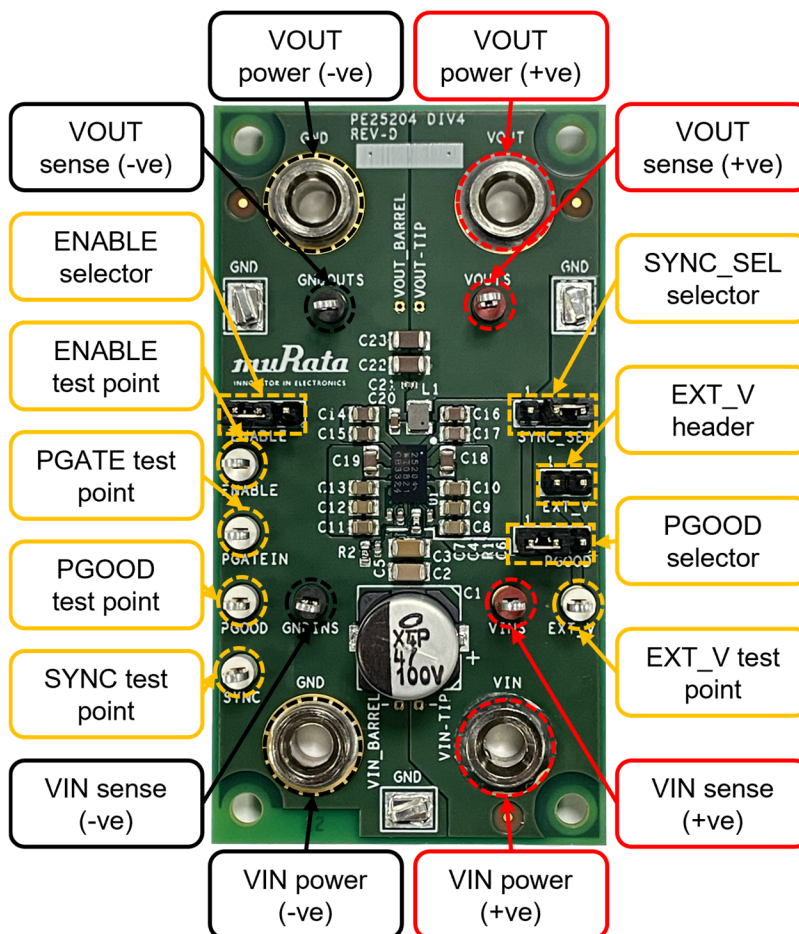

Figure 1. PE25204 Evaluation Board Assembly
The PE25204 EVK includes the following terminals, as shown in Figure 1:
The PE25204 EVK has a supply (2-pin) header EXT_V, as shown in Figure 1. The EXT_V header supplies an external pull-up power good (PGOOD) voltage between 3.3V and 5V to the EVK. Table 3 lists the EXT_V header functions and how to properly connect its pins to supply an external pull-up PGOOD voltage.
2. Verify that the PGOOD selector, as indicated in Figure 1, is fitted with a jumper configured to short pin 2 and pin 3.
Before you apply power to the EVK, verify that the ENABLE, SYNC_SEL, and PGOOD selectors shown in Figure 1 are properly fitted with the jumpers for your preferred configuration. Table 4 lists the configuration headers, the associated jumper configurations, and the recommended jumper configurations for a quick evaluation. Before you change any jumper configurations, always remove the input power.
To ensure accurate measurement of the input and output voltages, use the PE25204 EVK sense (+ve) and sense (-ve) test points for the V_{IN} and V_{OUT} voltages, as shown in Figure 1.